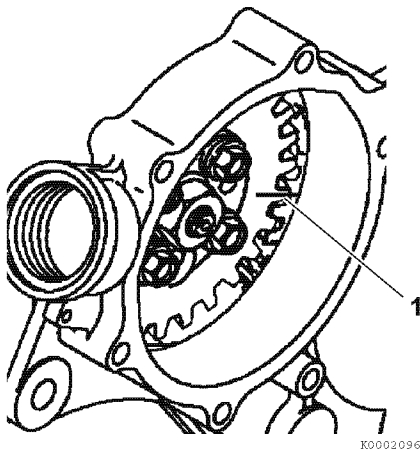

Figure 7-16
- To aid in reassembly, make reference marks (Figure 7-16, (1)) on the drive gear and idler gear.